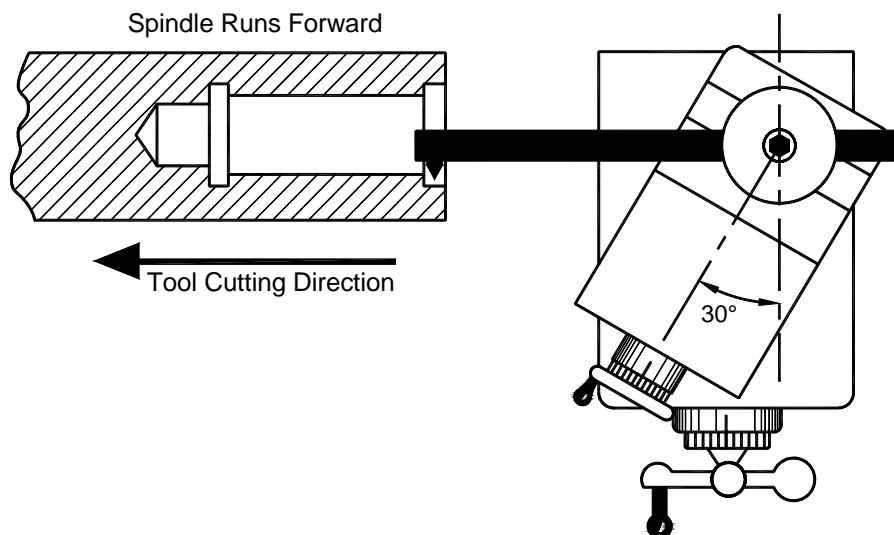

Figure 7-149. Setup for cutting internal threads starting from the outside of the work.
5. Threading may be done either starting from the outside of the work, Figure 7-149, or from the inside, Figure 7-150. Starting threading from the inside of the work eliminates the problem of not being able to see the internal end of the threads so you know when to open the half-nuts. This method is only suitable on lathes with a long-taper or cam-lock spindle nose which will not unscrew from the spindle when run in reverse under load. Select one of these methods, then install the boring bar (or single-piece tool bit) with the properly shaped cutting bit in the tool holder, and set the compound at an angle of  $30^\circ$  to the work axis.